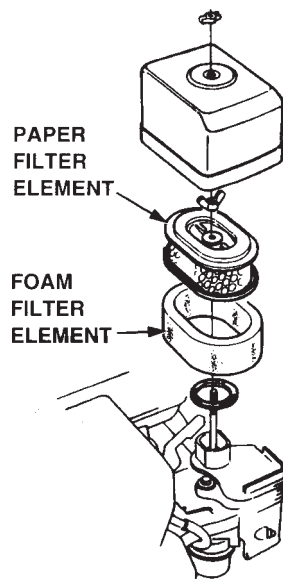

Figure 17. Air Filter
2. To clean or replace air filter, loosen the wing nut on the air filter housing (Figure 17). Remove the cover and take out air filter cartridge. If only cleaning of the air filter is desired, blow through the air filter cartridge from the inside, moving a jet of dry compressed air up and down until all dust is removed.